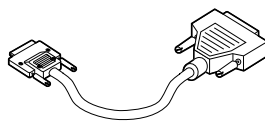

FIGURE 1-2 2m External Cable (Kit Includes Two Cables)
- Two 2m external cables (FIGURE 1-2)